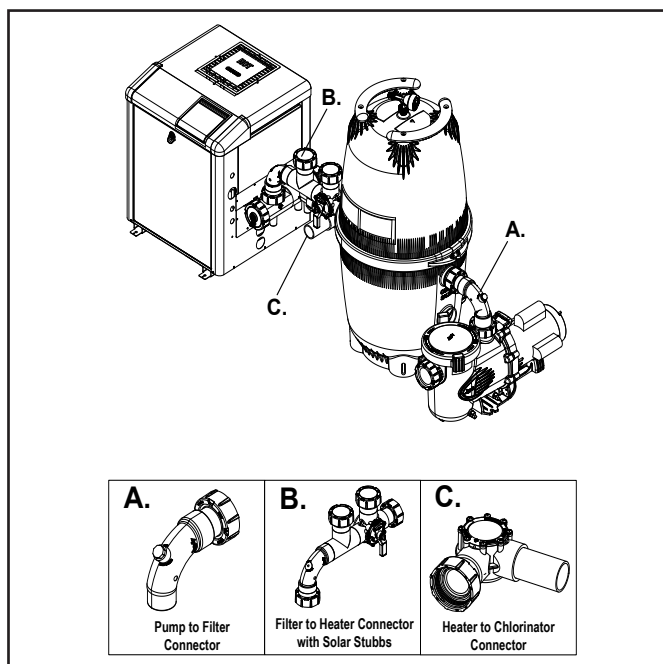

Figure 2. CV Solar Equipment Pad
3. Connect the pump to the suction lines (pool only or pool/spa combo) using CPVC cement and primer. The length of pipe into the suction port of the pump should be a minimum of four (4) times the pipe diameter.
4. Use CPVC cement and primer and connect the pump to the filter using the sweep elbow with the ½” NPT plug component of the kit, marked as “A” in figure 2. This positions the filter.
5. Use CPVC cement and primer and connect the filter to the heater using the provisional solar assembly component with union nuts on both ends, marked as “B” in figure 2. This positions the heater.
6. Attach the check valve (marked as “C” in figure 2) to the outlet of the heat pump making sure the flow arrow points in the correct direction.